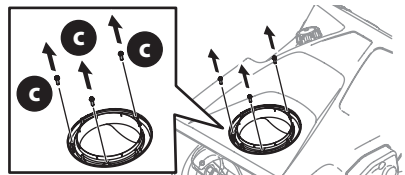

Figure 7
2. Remove the hex washer screws (c) in the chute base (Figure 7).